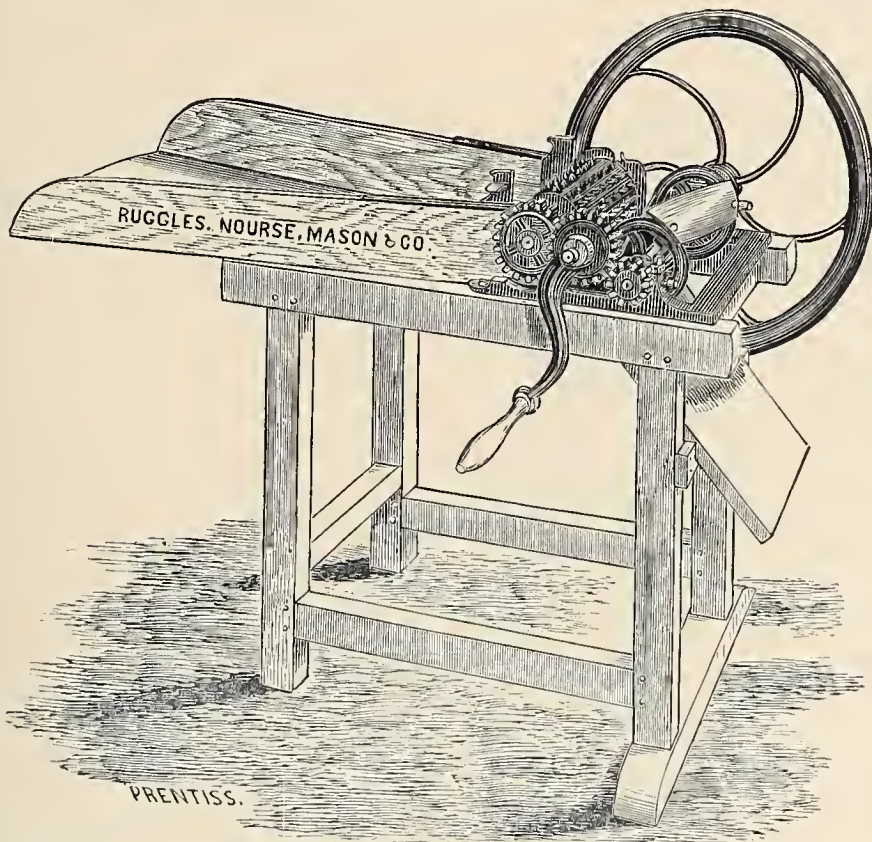

Fig. 444. — Cylindrical Stalk-Cutter.
**The Cylindrical Straw and Stalk Cutter**, represented by *Fig. 444*, is a first-class machine for cutting coarse forage, is very strongly made, and easily operated by one man.